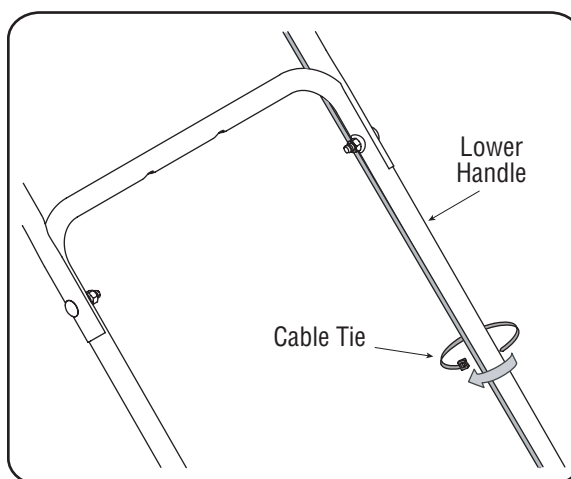

Figure 3-8
2. Secure the cable to the lower left handle with a cable tie. See Figure 3-8. Trim off the extra length of the cable tie.